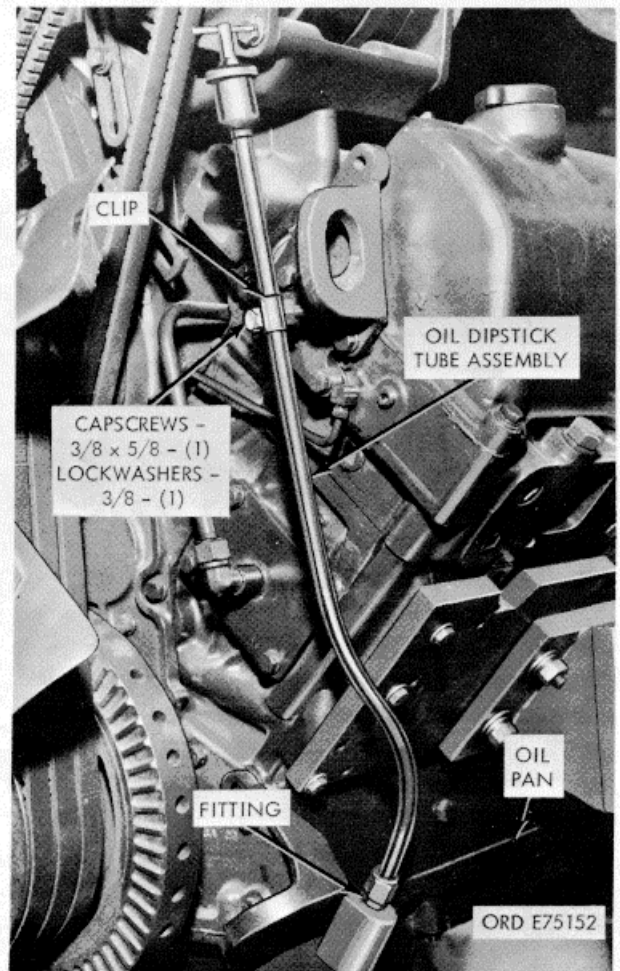

Figure 2-11. Oil dipstick tube assembly--removal/installation.
*n. Oil Dipstick Tube Assembly* (fig. 2-11).
(1) Remove capscrew and lockwasher securing tube clip to engine block.
(2) Disconnect tube at oil pan fitting and remove tube.